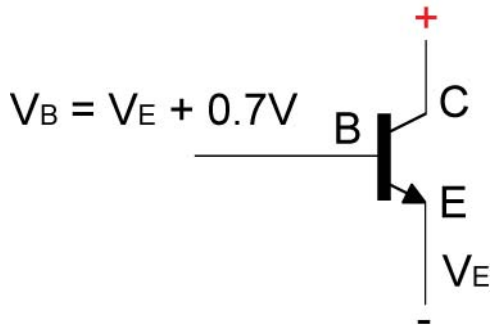
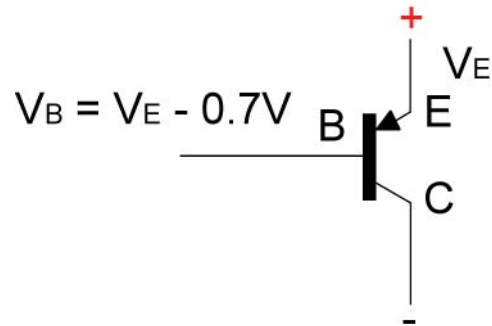

Figure 17: V_{BE} for an NPN Transistor
Figure 18: V_{BE} for a PNP Transistor
- In a NPN transistor, there is a 0.7 volt voltage drop between the base and the emitter (Figure 17). V_B must be 0.7 volts greater than V_E or the transistor will not permit collector-emitter current to flow. In a PNP transistor, there is a 0.7 volt voltage rise between the base and the emitter (Figure 18).